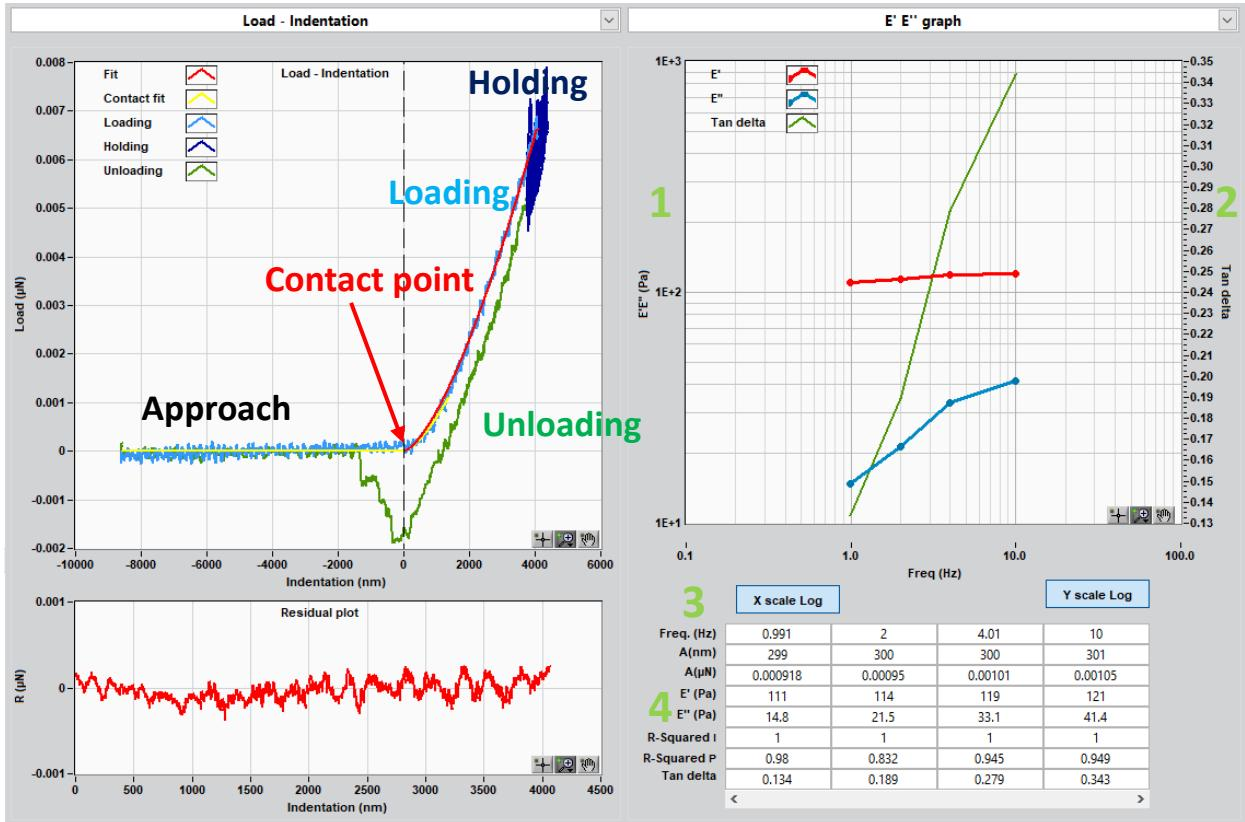
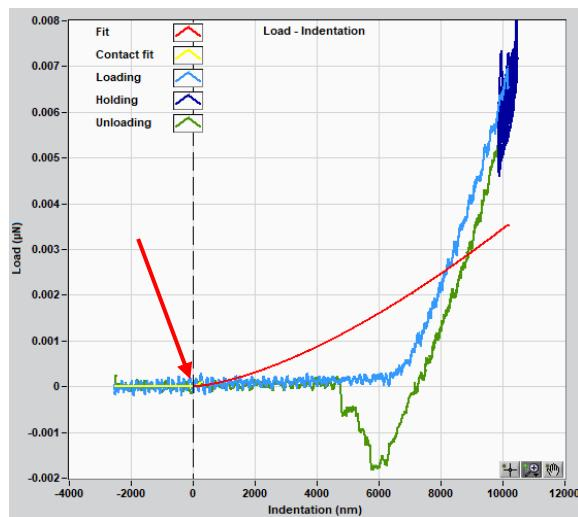

Figure 7: Results from DMA curves (left side) plotted at $E'E''$ graph (right side). Arrows indicate good Hertz fit for the determination of the contact point.
Figure 8: Example of a bad Hertz fit and a wrong location of the contact point.
Load the *Indentations* folder and select the *Test Indentation_001.txt* file which contains data from a DMA measurement in I-mode. E' , E'' graph contains (see green numbers in Figure 7):
7. Make sure that Hertz fit is well fitted for the initial load-indentation curve (see red arrows in Figure 8). The position of 0, also called contact point, of the **Indentation (nm)** axis, is determined based on this fit and is needed for the correct calculation of storage and loss modulus. See Figure 8 for an example of a bad fit and wrong estimation of the contact point.
- tip radius changes estimation of contact radius **a (R)** and, thus, Young's modulus for all models.
2. **Model settings** – select the desired model, **Oliver & Pharr**, **JKR**, **Hertzian contact** or **Hertz for hemispherical samples** and press **Save** to initiate analysis with the new settings. Decrease the value in **Pmax % for contact point** until a good fit of the initial load-indentation curve is achieved (see Figure 7 and Figure 8 for good and bad fit). Using the **Single fit method for Hertzian contact** will disable **Pmax % for contact point** and use one fit to calculate both the contact point and the Young's modulus.